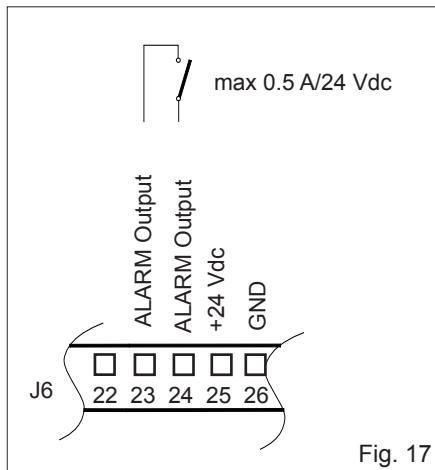

Fig. 17
**⑦ J6 TERMINAL BLOCK** Relay outputs and special functions (figs. 17, 18, 19)